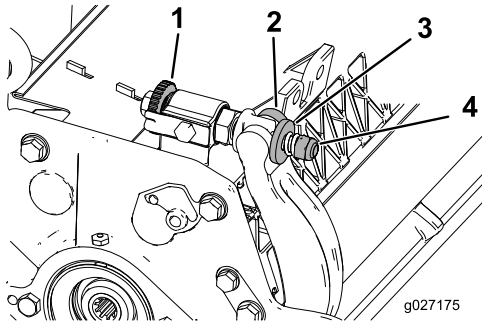

Figure 23
1. Turn the bedbar-adjusting screws counterclockwise to back the bedknife away from the reel (Figure 23).
2. Back out the spring-tension nut until the washer is no longer tensioned against the bedbar (Figure 23).